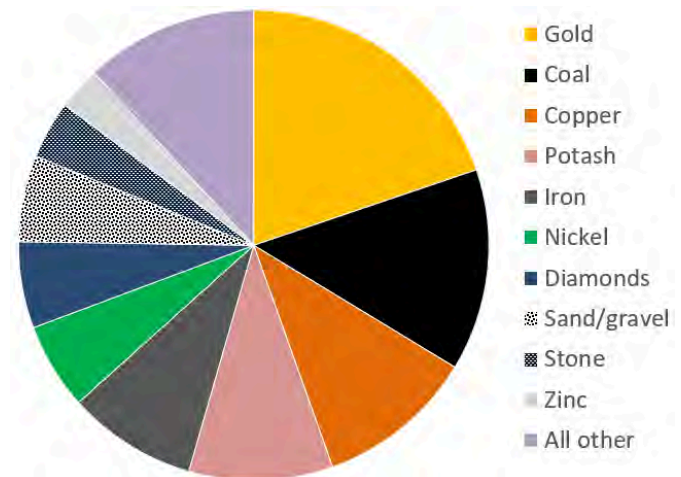

Figure 2.4.3: The value of various Canadian mining sectors in 2017. The total value of these products was about \$44 billion in 2017.
Canada's mining sector had revenues in the order of \$44 billion in 2017 (Figure 2.4.3). The 4 most valuable commodities were gold, coal, copper and potash, with important amounts from iron, nickel, diamonds, sand and gravel aggregates, stone and zinc. Revenues from the petroleum sector are significantly higher, at over \$100 billion per year.
- Figure 2.4.3: © Steven Earle. CC BY. Based on data from Natural Resources Canada.